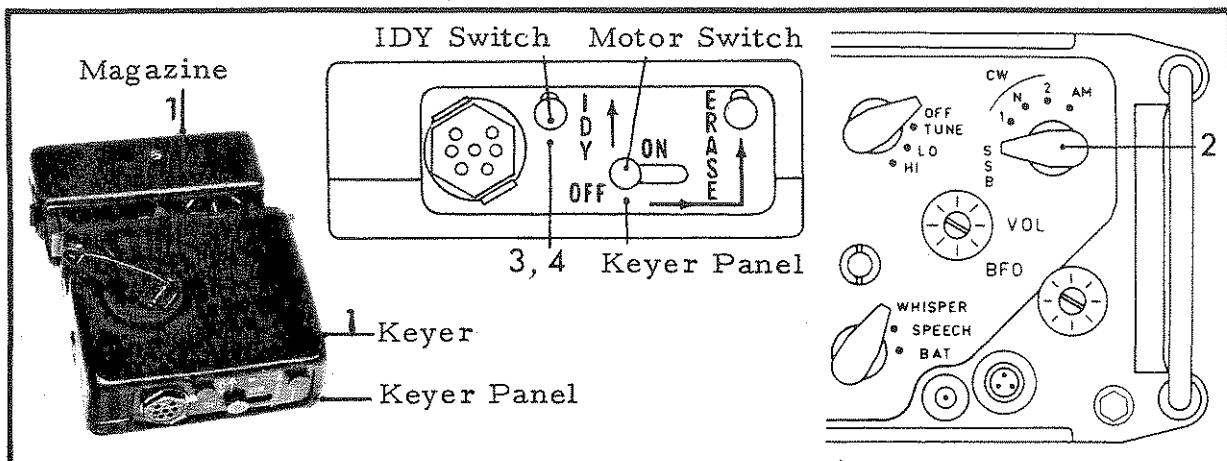

FIG 48
138. Tuning Sequence. The sequence references are also the serials of Fig 48.
- (3) Fig 48 Operating Sequence C - Using High Speed Burst Transmission Facility.
- (4) Para 138 Tuning Sequence - Radio Set, GRC-F2.
- (5) Para 140 Operating Sequence - Radio Set, GRC-F2 using Power Supply, PP-F1.